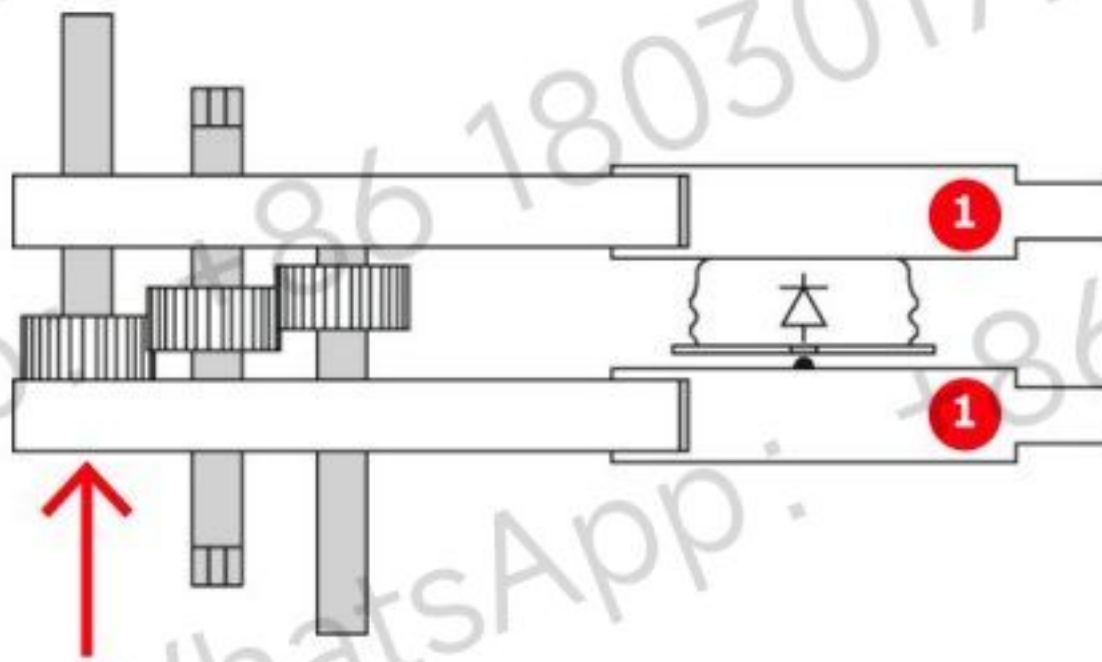

Figure 10–8 Manual support during spreading tool insertion
- ▶ Always support the spreading tool with your hand (arrow in Fig. 10–8).
1. Insert the spreading tool completely into the slots of the coolers (heat sink) above and below the faulty semiconductor as shown in Fig. 10–9.